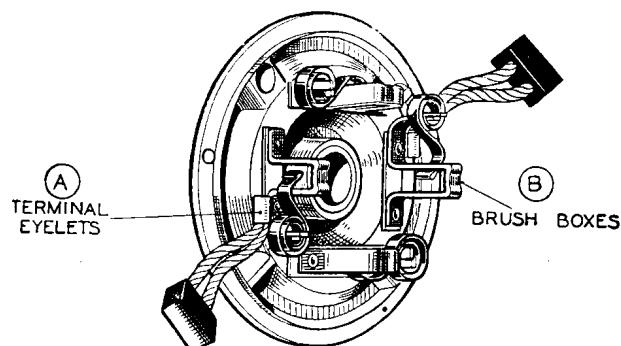

Fig. N.12.
- (b) If the brushes are worn so that they no longer bear on the commutator, or if the flexible connector has become exposed on the running face, they must be renewed. Two of the brushes are connected to terminal eyelets "A" (Fig. N.12) attached to the brush boxes